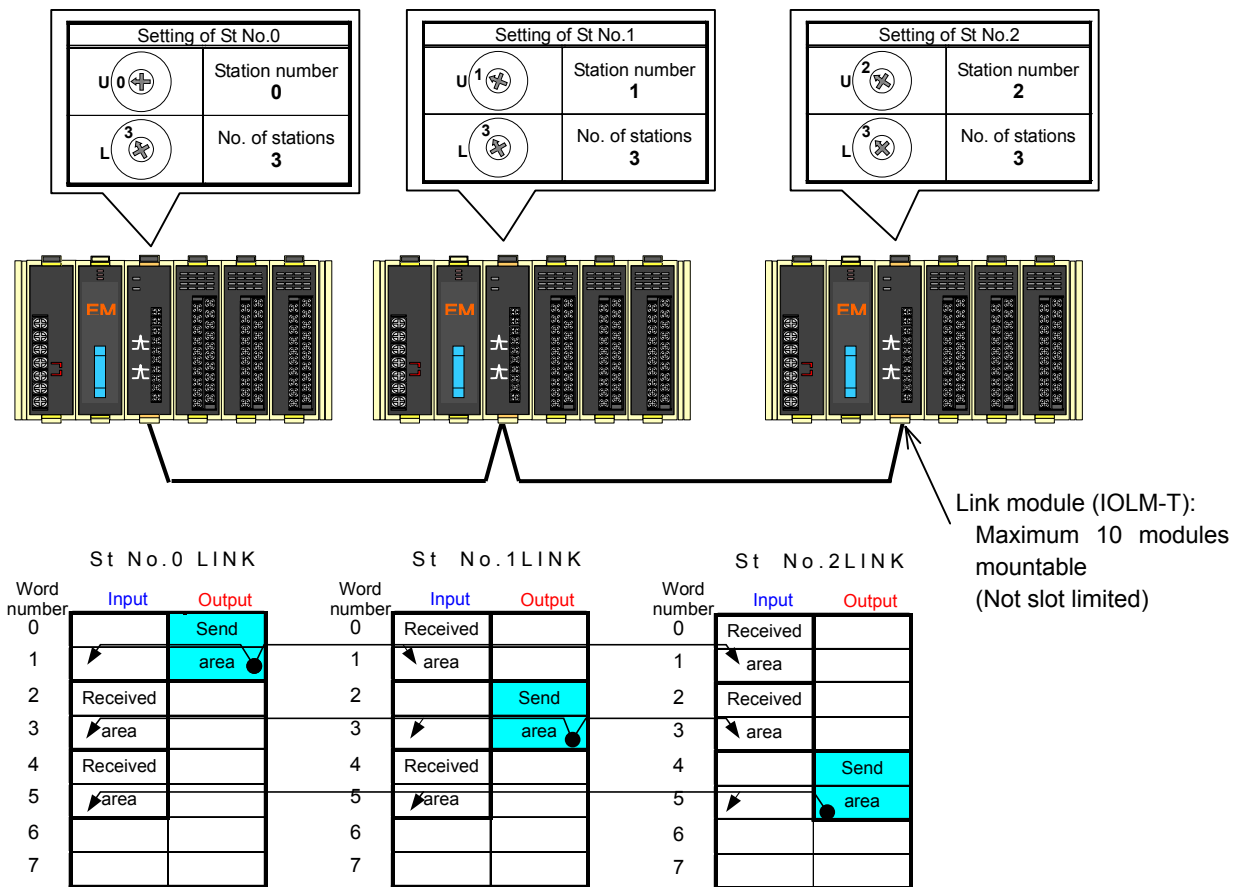
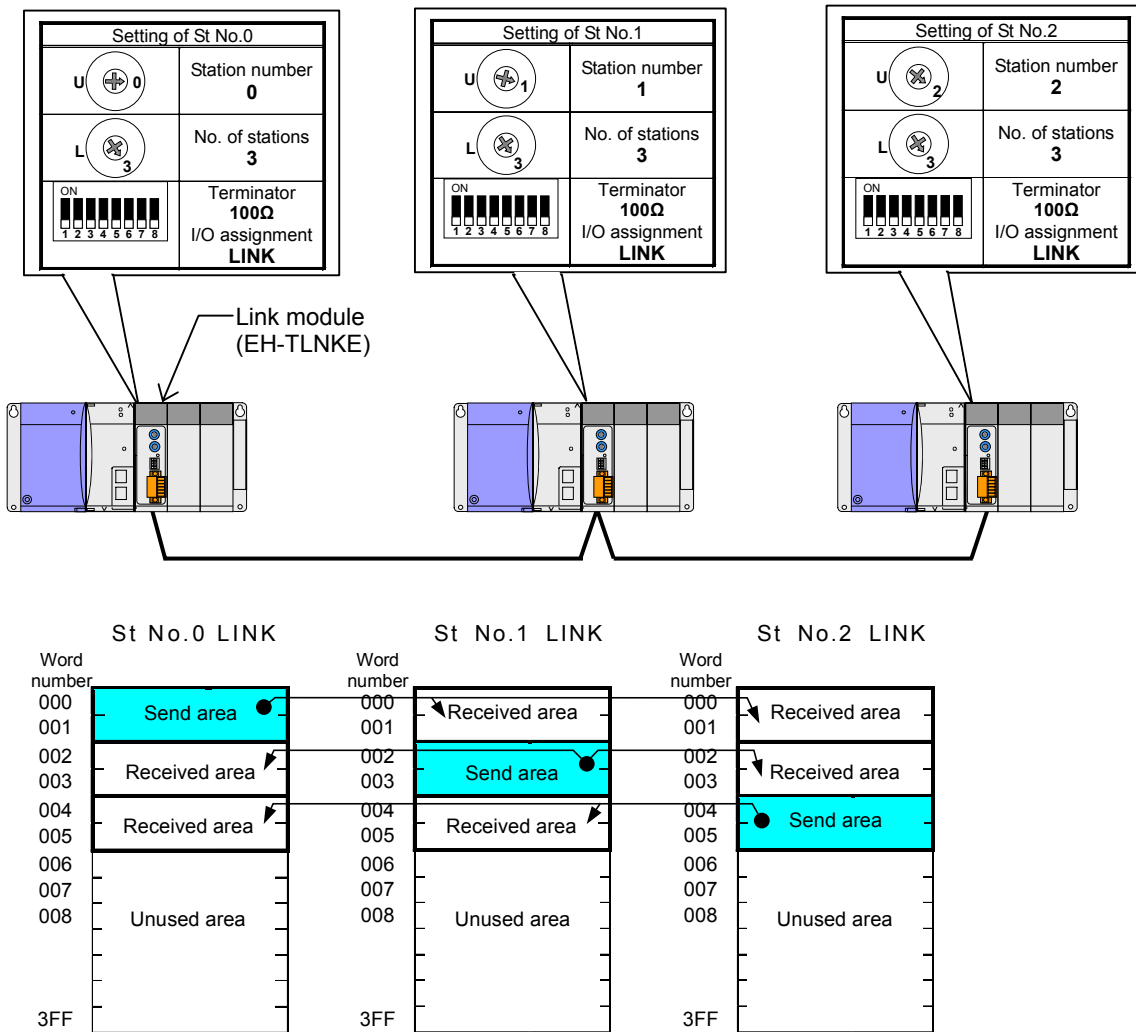

Figure 4.5.1 System configuration example-6 of the EM/EM- II
Figure 4.5.2 Replaced system configuration example-7 of the EH-150
Figure 4.5.1 shows the system configuration example of the EM series. Figure 4.5.2 shows the replaced system configuration example of the EH-150 series. In the case of EM/EM-II series, it is not necessary to set I/O assignment for link modules. But it is necessary to set I/O assignment "LINK" for link module in replaced system with EH-150.
Figure 4.5.2 is an example of replacing all of link system with the EH-150 series. It is also possible to leave all or partially stations of the EM series in order to postpone the wiring work of stations. In this case, please turn on communication mode (MODE), and turn off high-speed refresh mode (HS) of a front DIPswitch of the compact link modules.